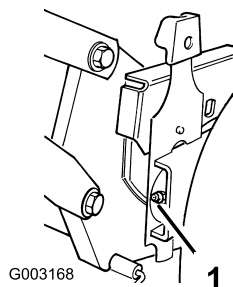

Figure 28
2. Wipe the grease fittings with a clean rag (Figure 28).